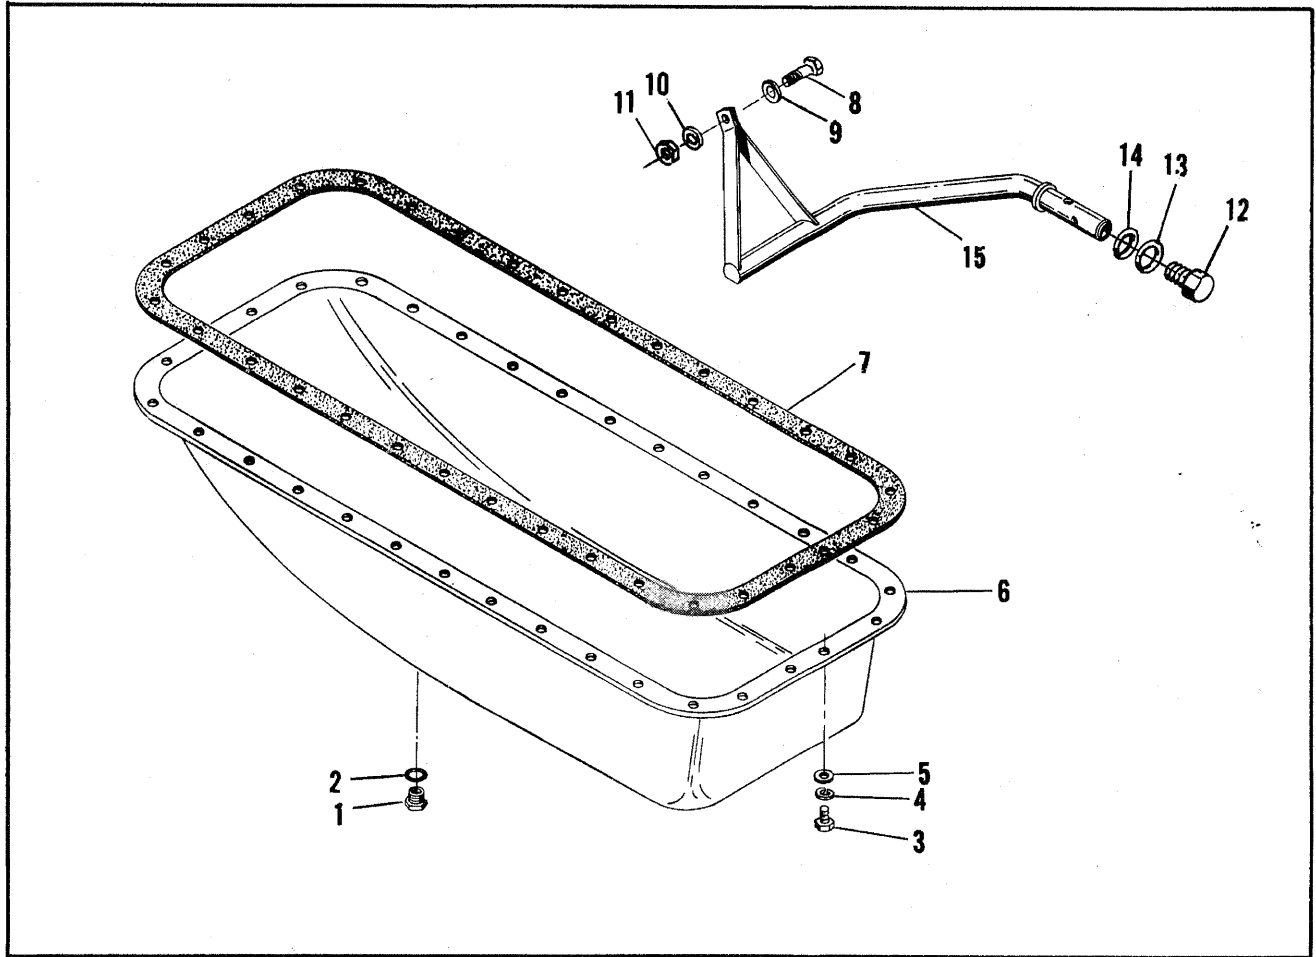
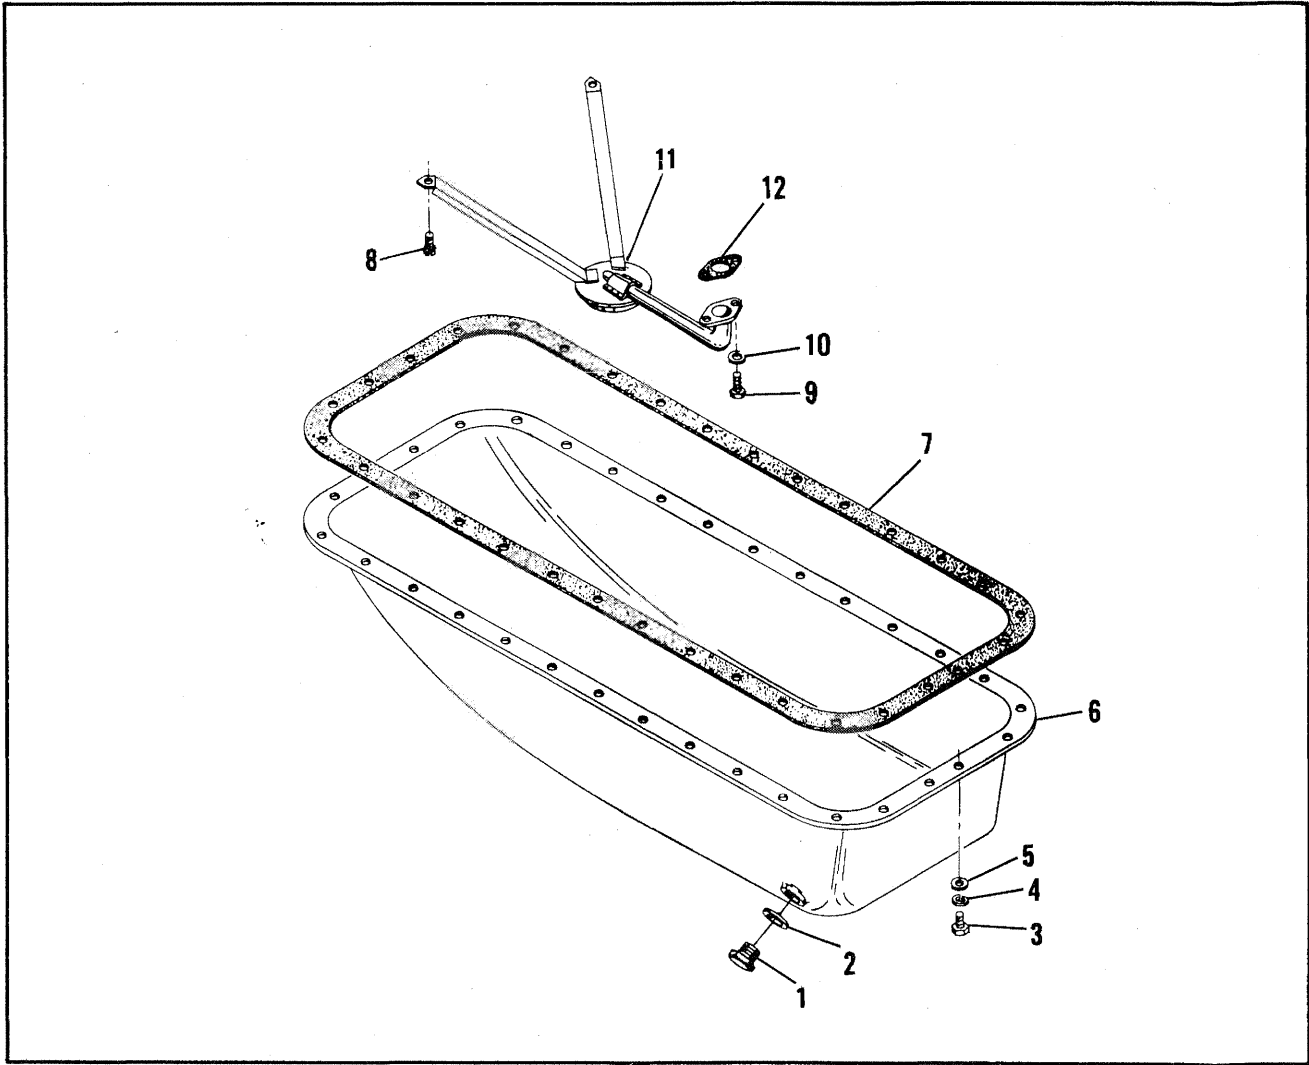
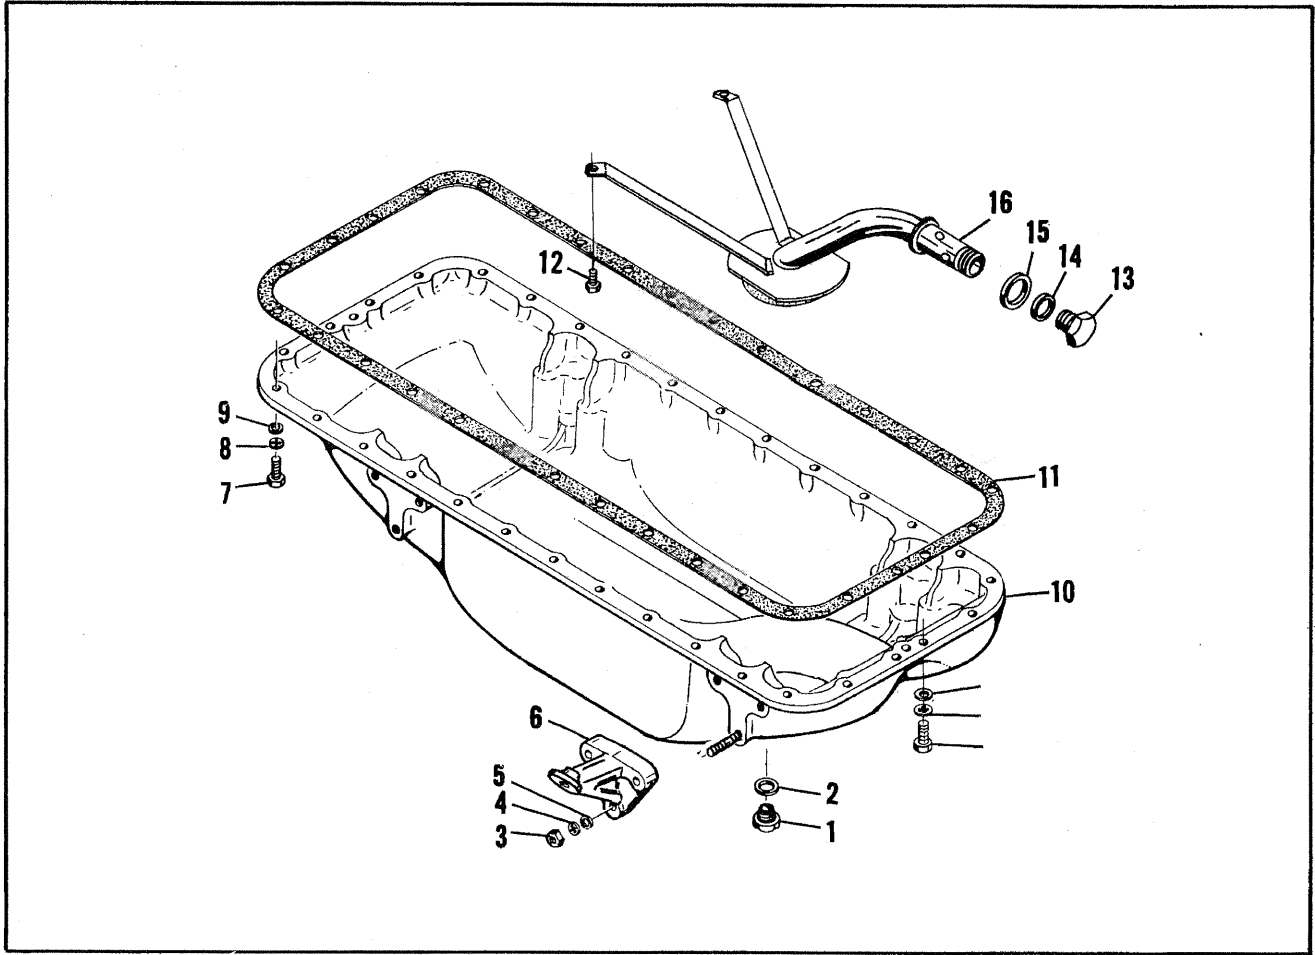
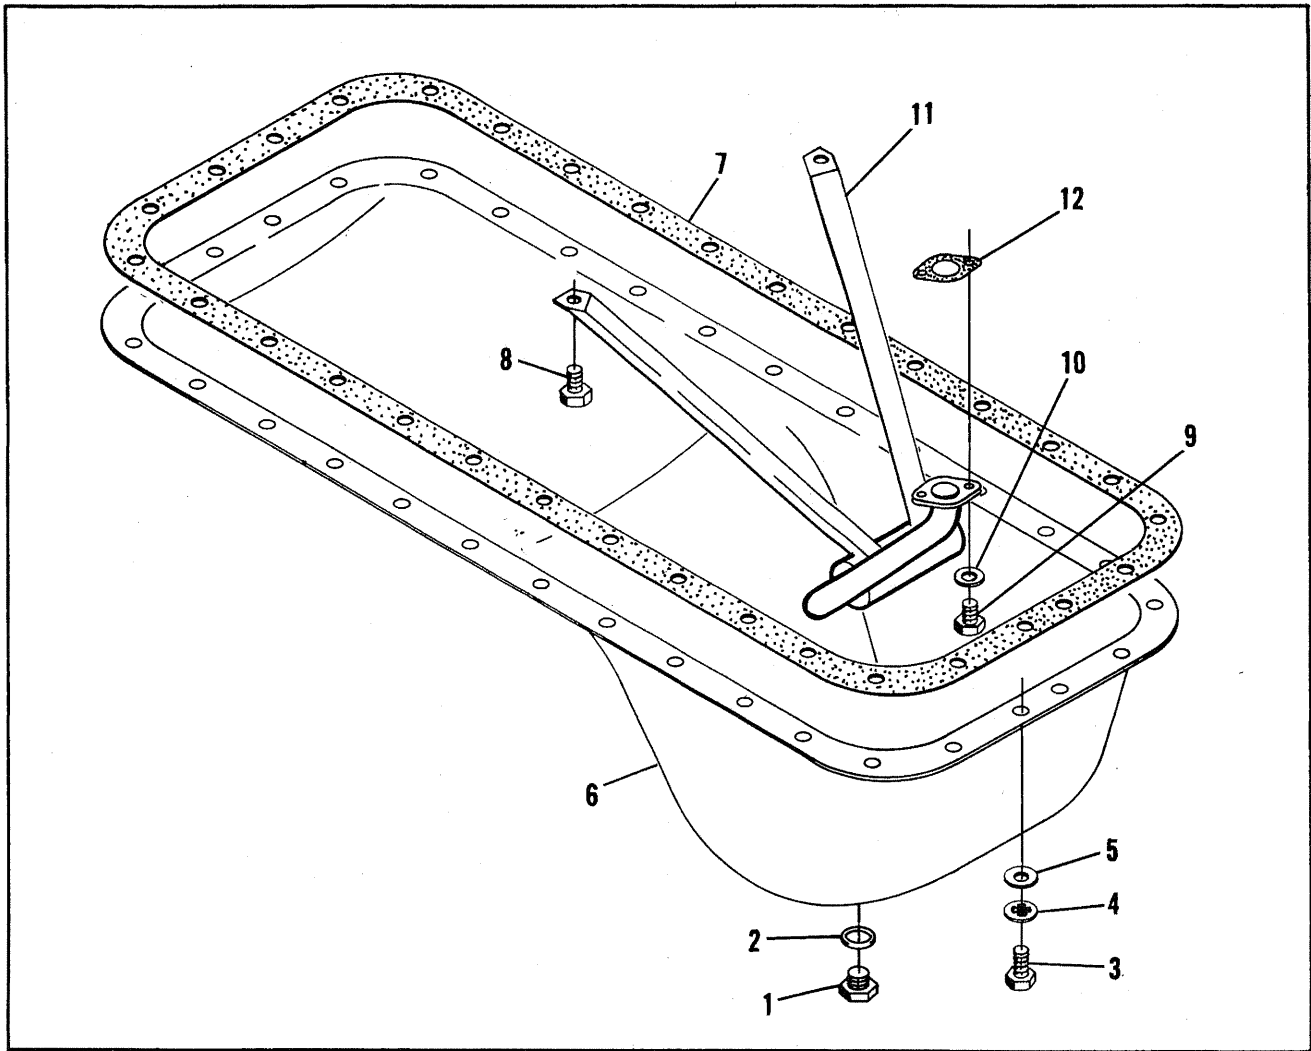

FIGURE 4-12. OIL SUMP, TSIO-520-B, E, J & K.
FIGURE 4-13. OIL SUMP, TS10-520-C & G.
FIGURE 4-14. OIL SUMP, TSIO-520-D.
FIGURE 4-15. OIL SUMP, TS10-520-H.
**4-20. OIL SUMP, TSIO-520-B, E, J & K** (See Figure 4-12).
- a. Drain plug (1) and gasket (2) should have been removed when engine was mounted on stand. Remove attaching parts (3,4,5) and lift sump (6) from engine. If hard to remove, tap with a soft hammer. Do not pry. Remove and discard gasket (7).
- b. Remove bolt (8), washers (9,10), nut (11), plug (12) on the outside of the crankcase at the rear 1-3-5 lower corner, and gaskets (13,14) to withdraw oil suction tube (15).
**4-21. OIL SUMP, TSIO-520-C & G** (See Figure 4-13).
- a. Drain plug (1) and gasket (2) should have been removed when engine was mounted on stand. Remove attaching parts (3,4,5) and lift sump (6) from engine. Remove and discard gasket (7).
- b. Remove screws (8,9) and washers (10) to remove oil suction tube assembly (11) and gasket (12).
**4-22. OIL SUMP, TSIO-520-D** (See Figure 4-14).
- a. Drain plug (1) and gasket (2) should have been removed when engine was mounted on stand.
- b. Remove attaching parts (3,4,5) and lift off mounting legs (6).
- c. Remove attaching parts (7,8,9) and lift off sump (10). Remove and discard gasket (1).
- d. Remove bolt (12), plug (13), on the outside of crankcase at the rear 1-3-5 lower corner, gaskets (14,15) and withdraw oil suction tube (16).
**4-23. OIL SUMP, TSIO-520-H** (See Figure 4-15).
- b. Remove attaching parts (3,4,5) and lift off sump (6). Remove and discard gasket (7).
- c. Remove screws (8,9), washers (10) and remove oil suction tube assembly (11). Remove and discard gasket (12).